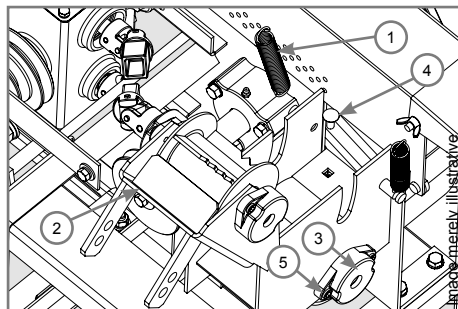

Figure 15
**In order to replace the counter cutting blade, proceed as follows (Figure 15):**
1. Remove the tension springs (1).
2. With the green hopper removed, lift the drive box lid (2).
3. Remove the lower feed roller (3). For that purpose, it is necessary to remove the bearing by loosening the Allen screws (5) which attach the bearing to the machine.
4. Remove the fasteners and the blade holder (4).